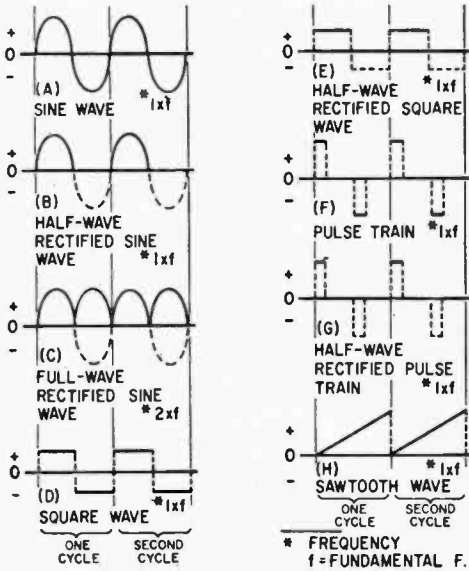

Fig. 1. Frequency comes in all shapes and sizes. The dotted lines show current missing in ideal waveform.
The pitch of a sound is its *frequency*. An AC sine wave (house current or pure, steady audio tone) has a specific frequency. A square wave or almost any signal (except a pure sine wave) contains *harmonics* in addition to its fundamental frequency. (A harmonic is a multiple of a fundamental frequency.) A train of evenly spaced pulses transmitted at a steady rate has a specific *pulse repetition rate* (PRR) or *pulse repetition frequency* (PRF) often stated in PPS (*pulses per second*). Its PRF or PRR has a fundamental frequency plus other frequencies. Fig. 1 shows some common wave forms.
rection of flow at some constant frequency. House current, for instance, reverses its direction of flow 60 times per second. Take a look at Fig. 1 (A). Here, the line voltage rises from zero to 161 volts positive, drops back to zero, rises to 161 volts negative, and then drops back to zero during one cycle. The RMS (root mean square) voltage is 115 volts, the peaks are alternately +161 volts and -161 volts. The peak-to-peak voltage, therefore, is 322 volts. For practical purposes, we call this a 115-volt circuit.
an *alternator* is formed. An alternator is an AC generator which, when correctly designed, produces sine wave AC (as in Fig. 1). As the coil (rotor) passes the poles of the magnet the north pole induces an EMF (electromotive force) in one direction and the south pole in the opposite direction. The frequency of the AC depends upon the speed of rotor rotation and the number of magnetic poles used. The voltage depends upon the number of rotor coil turns and the strength of the magnetic field.